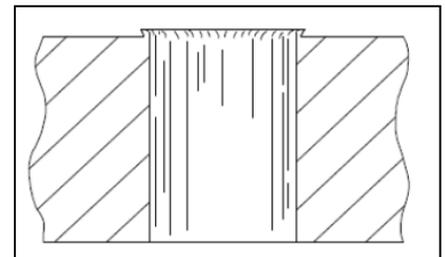

Figure 8 Feathered Burr
- f. **Feathered Burr** (see Figure 8):